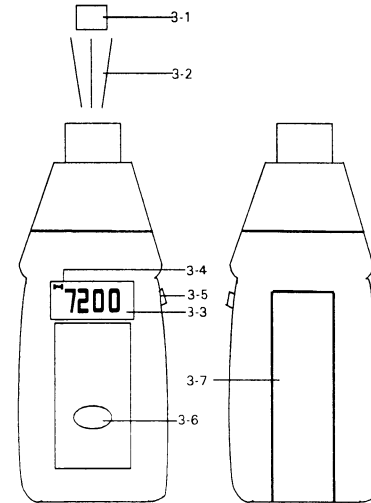

Fig. 1
Apply a reflecting mark to the object being measured. Depress the "Operation Button" (3-5, Fig. 1) & align the visible "Photo Signal Light Beam" (3-2, Fig. 1) with the applied target. Verify that the "Target Indicator" (3-3, Fig. 1) lights when the target pass thru the light beam. Release the "Operation Button" when the reading stabilizes (about 2 seconds).
1) The minimum, maximum and the last (final) reading S are automatically stored during measurement. These values can be recalled anytime by pressing the "Memory Call Button" (3-6, Fig. 1).
2) To recall the stored value, follow those procedures as: Release the "Operation Button" (3-5, Fig. 1) first.
- a) Press the "Memory Call Button" (3-6 Fig. 1) once to display the last reading. The symbol "LA" will appear on the display.
- b) Press the "Memory Call Button" (3-6 Fig. 1) once again to display the maximum value. The symbol "UP" will appear on the display.
- c) Press the "Memory Call Button" (3-6 Fig. 1) once more to display the minimum value. The symbol "dn" will appear on the display.
- 2) Open the "Battery Cover" (3-7, Fig. 1), replace with new batteries correctly into the battery compartment and reinstate the cover.